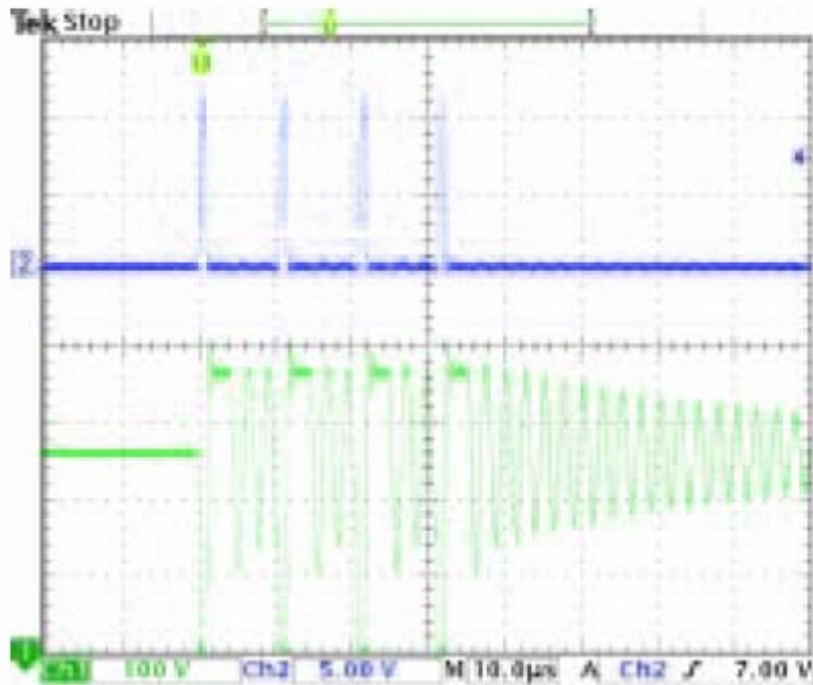

Figure 3. Gate Driver and Drain Voltage at Very Light Load
3.2 Increase load current to 0.1 A. Gate driver and drain voltage should be as in Figure 3. Verify that output voltage is 12.0 V \pm 1%. Input current should not exceed 200 mA.